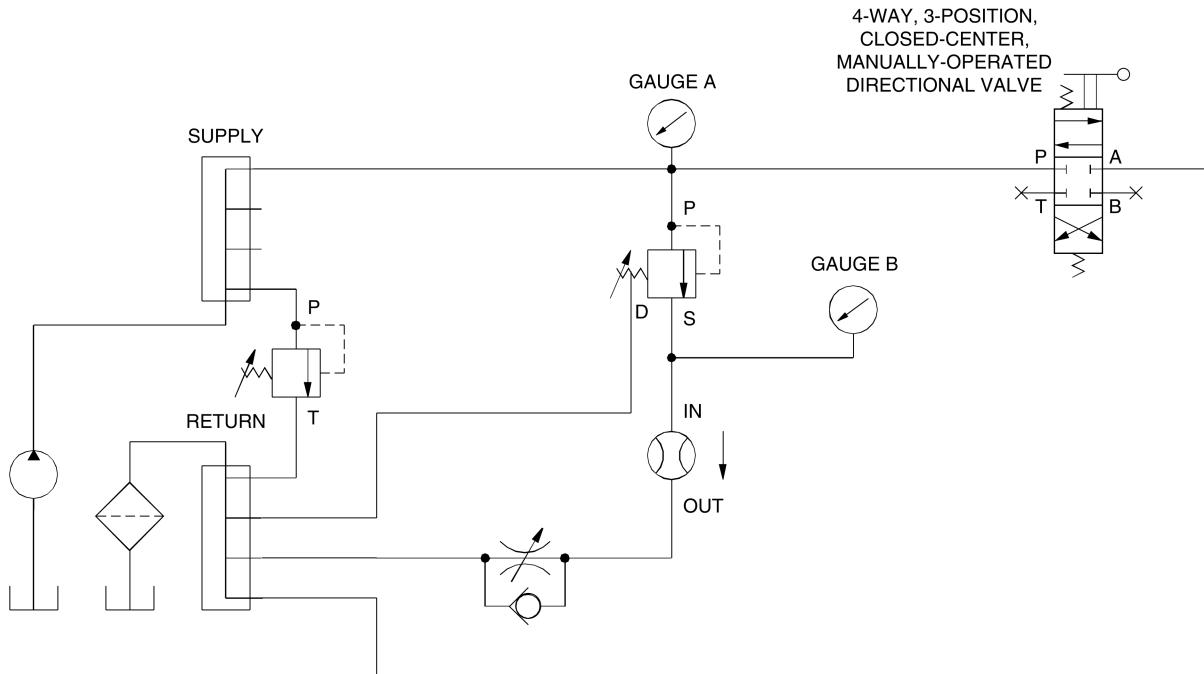

Figure 3-5. Testing the operation of a sequence valve.
- 1. Connect the circuit shown in Figure 3-5. In this circuit, the Flow Control Valve will be used to simulate a varying load downstream of the Sequence Valve. The lever-operated Directional Valve will be used to simulate a clamp cylinder extending to a workpiece.